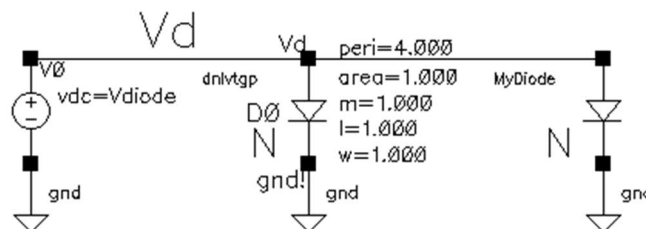

Figure 13. Test bench schematic for MyDiode.
- a. Open **Diode\_Tb** and instantiate your **MyDiode** module into the test bench in parallel with **dnltgtp**. The test bench should now look like in Figure 13.